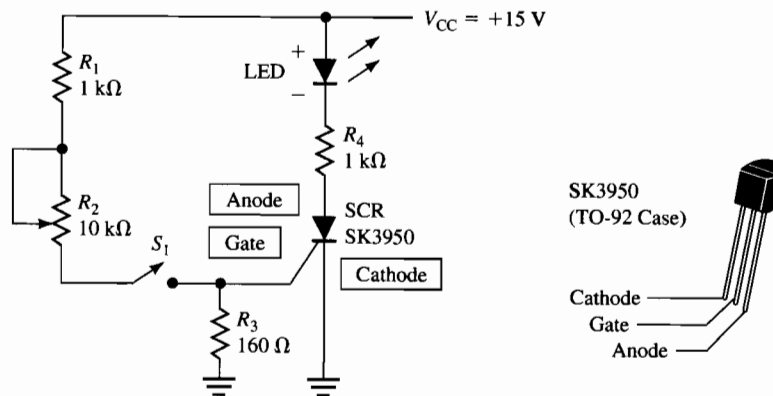

Figure 36-3
5. Replace the transistor latch with an SCR as shown in Figure 36-3. Repeat steps 2, 3, and 4 for the SCR. Enter the data in Table 36-2 under SCR.
3. Explain why a short from V_{CC} to the anode of the SCR in Figure 36-3 could cause the SCR to burn out.